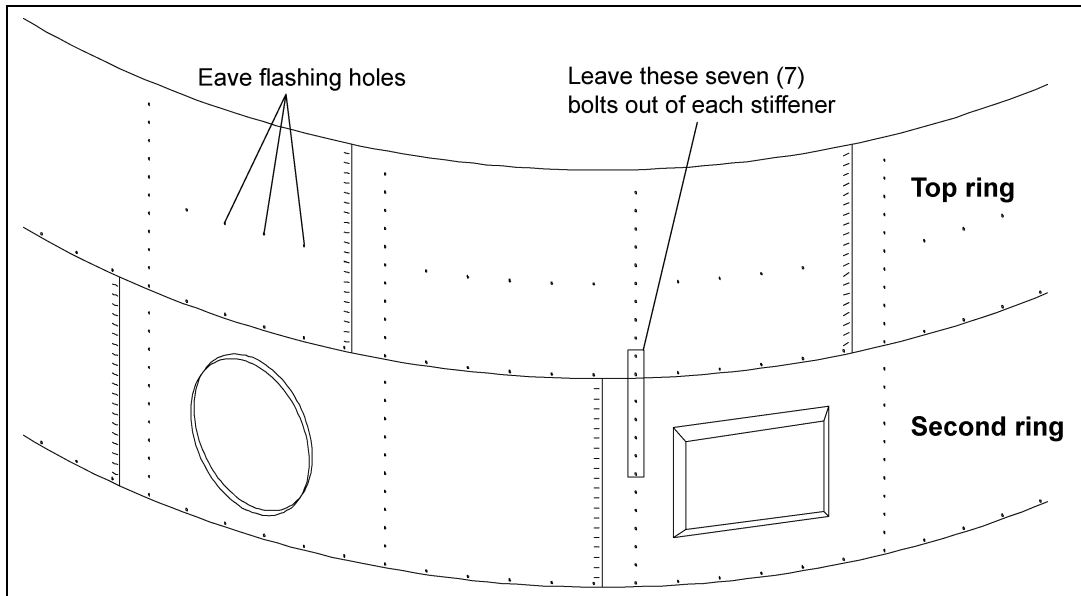

Figure 5B
NOTE: The fan entrance sheet and access door are located in the second ring. Attach the top stiffeners, leaving out the seven (7) bolts indicated in Figure 5B at each stiffener location. Install the flashing bolts from the outside and tighten first nut on the inside of the bin.